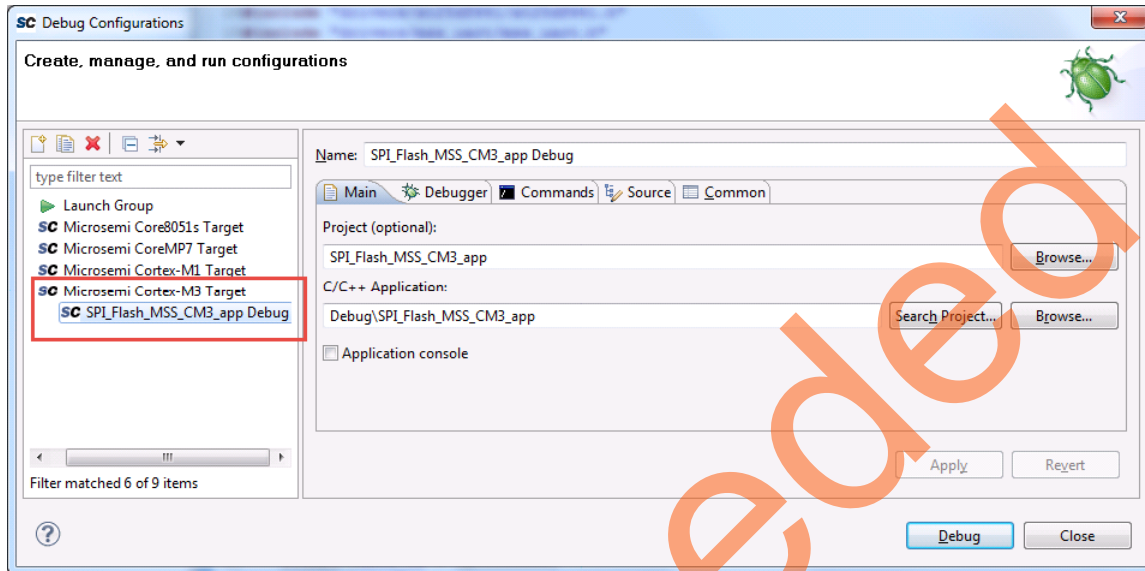

Figure 28 • Debug Configurations
1. Select **Debug Configurations** from the **Run** menu of the SoftConsole. The **Debug Configurations** dialog box is displayed. Double-click **Microsemi Cortex-M3 Target** to view the configurations, as shown in Figure 28.